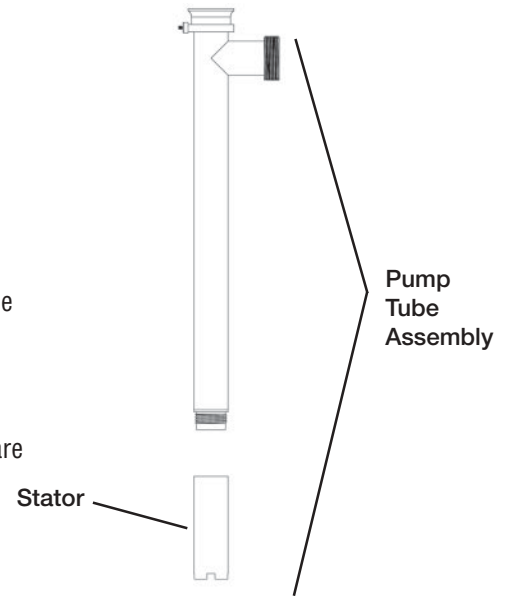

Figure 5
3. The stator is located at the bottom of the pump tube assembly (see Figure 5).